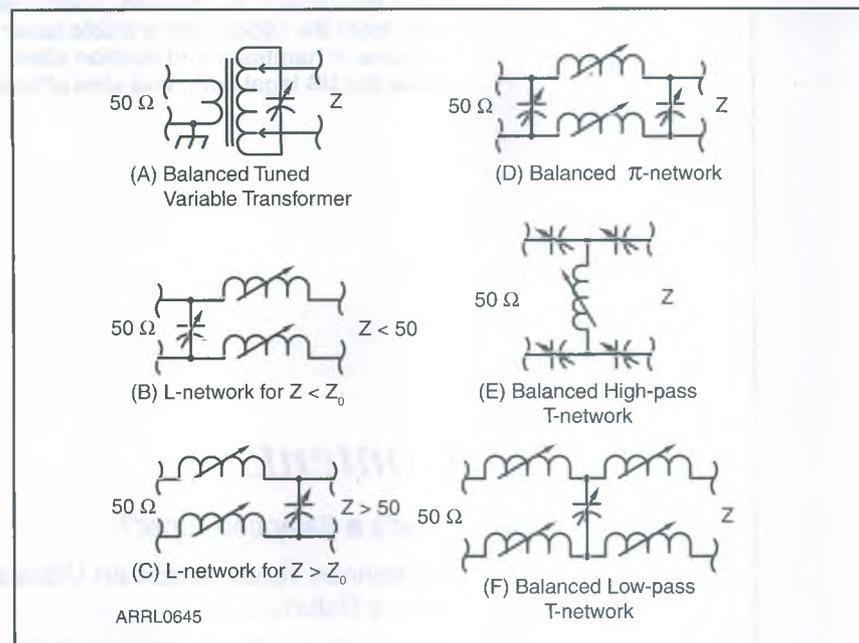

Figure 12-1 — Configurations of balanced antenna tuner versions of the unbalanced tuners in Figure 3-3, in Chapter 3.
The tuner configurations shown in Figure 3-3, in Chapter 3, are all inherently unbalanced since ground is on one side of each. Any of them can be converted to a balanced configuration by essentially providing a mirror image on the other side of ground. The configurations of Figure 3-3 are shown in balanced form in **Figure 12-1**. A quick look at the figure will indicate that we now have something we probably didn't want — a balanced to balanced tuner!
The one configuration that can be easily transformed to a balanced to unbalanced tuner is the tuned transformer in Figure 12-1 (A). This is because the transformer coupling to the radio (left) side of the transformer does not maintain the same ground reference. Thus one side of the primary (left) winding can be grounded
The other configurations in Figure 12-1 require a balun on the 50 Ω side to fit into coaxial fed systems. While this may seem about the same as putting the balun on the antenna side of the tuner (more in next section), the difference here is that we transform the widely variable balanced antenna system impedance on the right side to a 50 Ω balanced load on the left in Figure 12-1. We then can use a 1:1 50 Ω balun to transform to unbalanced for coax connectivity. Alternately, some tuners are designed to transform to a 200 Ω balanced